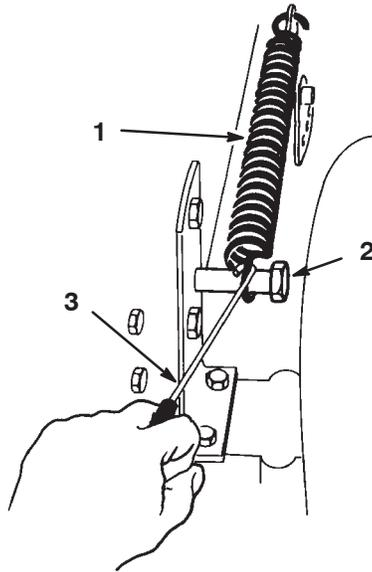

Figure 46
- Hook the lift assist spring between the mower right side lift bracket and the retaining bolt (Fig. 46).